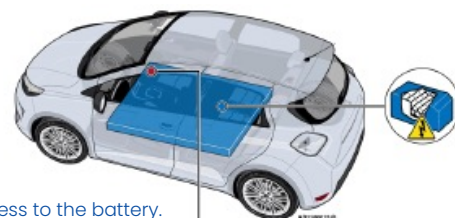

Figure 2. Access to the battery.
10) Follow steps 1 - 2 - 3 - 4 - 5 in figure 2.